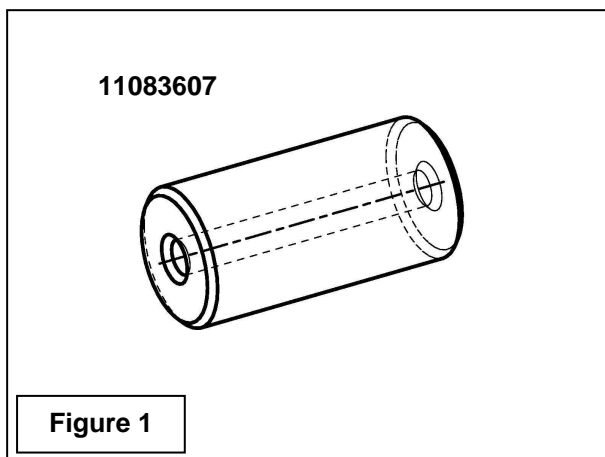

Figure 1
- The transmission cooler bleed line should be retrofitted with a 3/32" restrictor to reduce the flow rate through the expansion tank (Figure1).